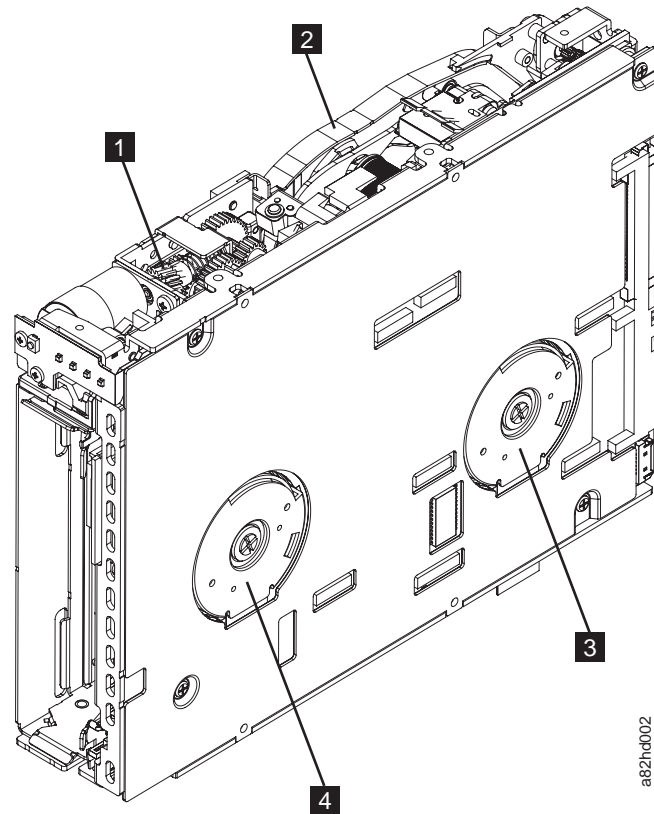

Figure 178. Rewinding tape into cartridge
2. Begin spooling the tape back into the cartridge by turning the supply reel motor (**4** in Figure 178) clockwise.
3. Continue spooling into the cartridge until the tape is taut and remains within the flanges of the tape guiding rollers. Ensure that you do not stretch the tape. Continue spooling until all tape is removed from the takeup reel (**3** in Figure 178).